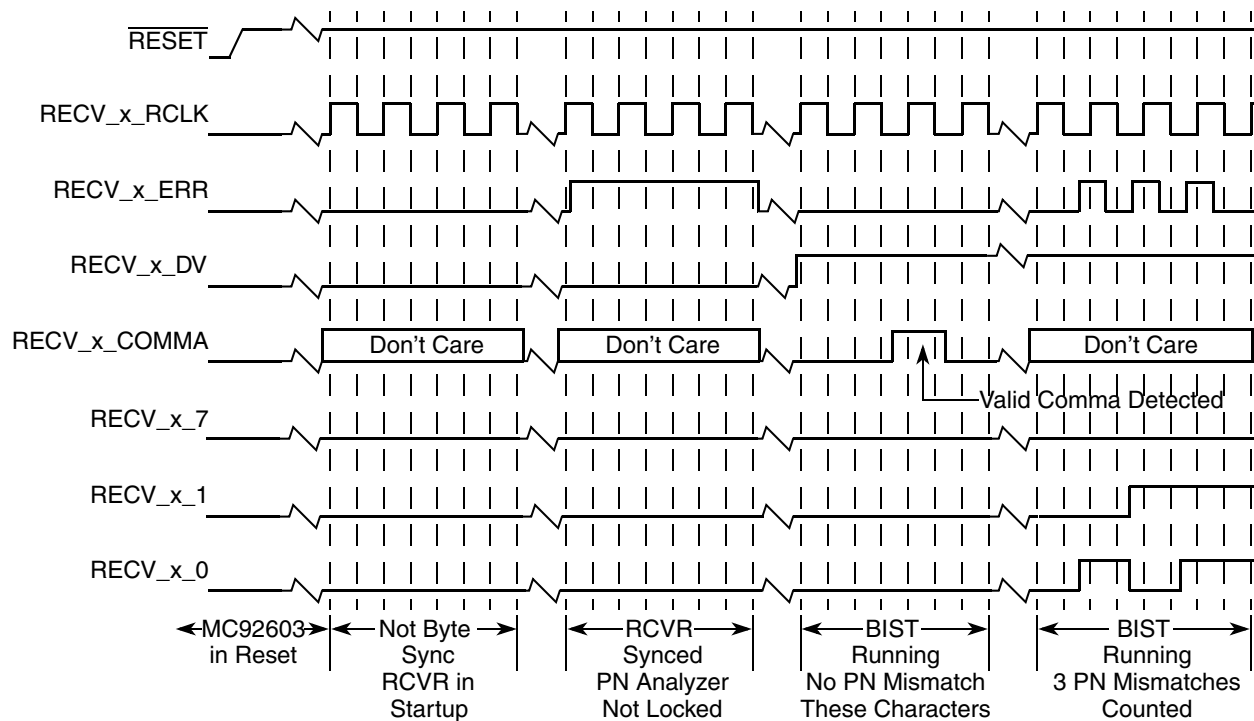

Figure 3-4. Receiver Startup and Error Detection Sequence
6. When the receivers are locked and BIST is running, the recovered clock is observable on RECV_x_RCLK. See Table 3-5 for the errors codes and Figure 3-4 for an example of a receiver startup and error detection sequence.